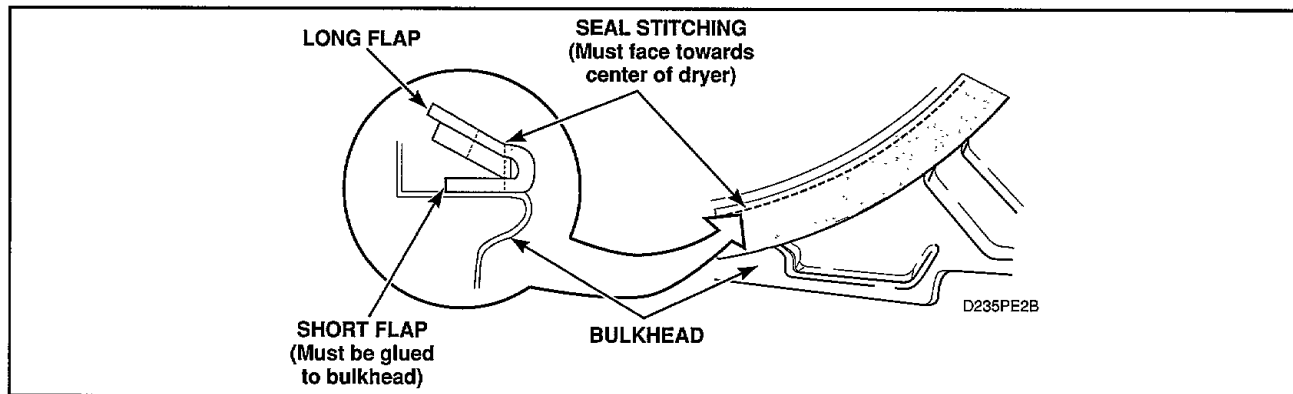

Figure 41
### h. Front cylinder seal (Figure 41)
- (1) The stitching on the seal must face towards the dryer center, *Figure 41*.
- (2) The short flap, *Figure 41*, must be glued to the bulkhead and the long flap left loose.